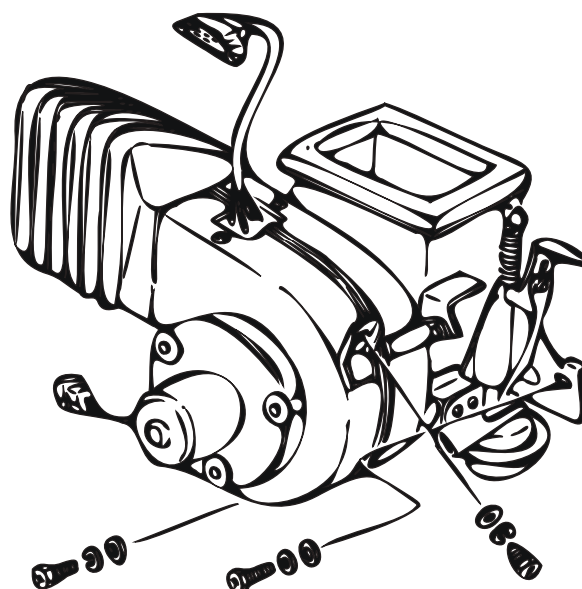
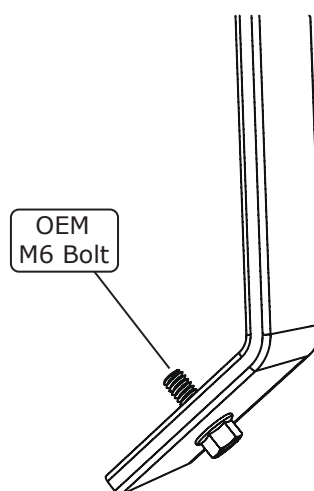

Figure 1
Figure 3
1. Disconnect the securing bracket by removing (2) bolts from the heater core case to the refrigerant hardlines (See Photo 1, below).
3. From the under dash passenger compartment side, remove the (1) bolt retaining the fan blower assembly to the cowl hanger and the (2) bolts from the vehicle's firewall (See Figures 1 and 2, below). Disconnect any associated electrical harness connectors, remove blower motor assembly and discard unit. Reinstall cowl hanger bolt (See Figure 3, below). **NOTE: It is critical for Step 3 to be done now. Do not miss or skip this instruction.**